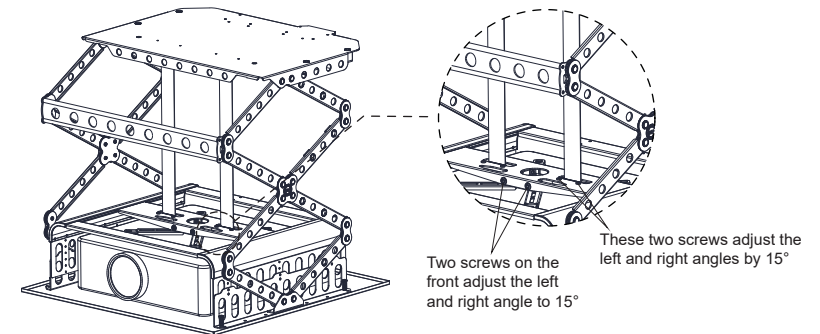

Figure 5
Projector angle adjustment (Figure 5)
1. As shown in Figure 5, detect the level of the projector lift in the front and rear and left and right directions. If it is tilted, you can adjust the level of the projector by adjusting the up and down positions of the nuts in the picture. The center of gravity of the projector cannot be tilted too far forward.